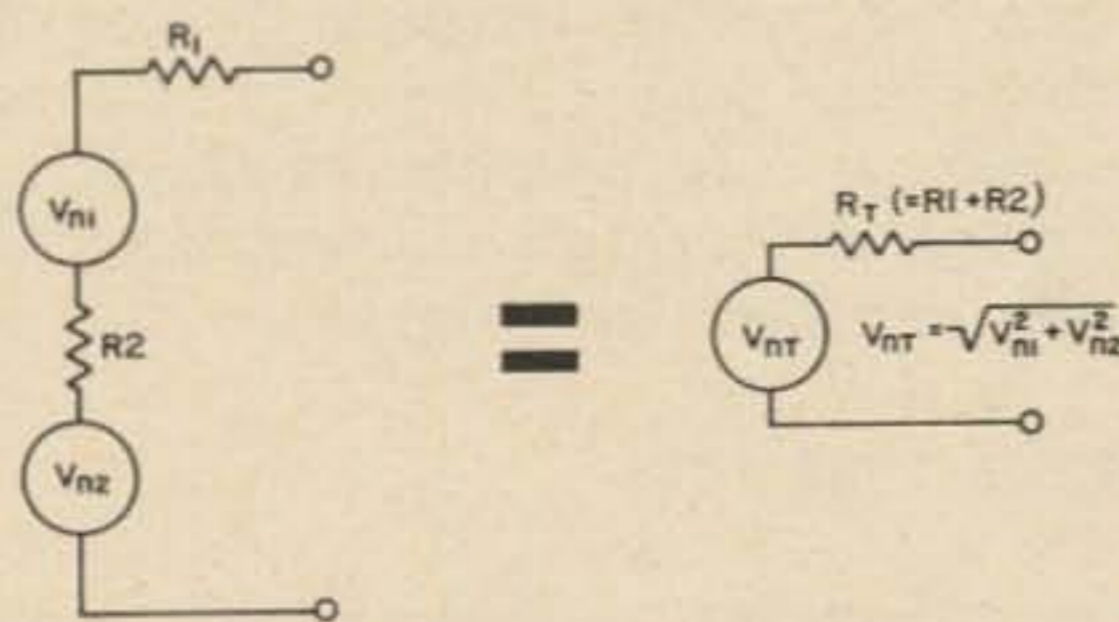

Fig. 3. Combining two resistors into their total equivalent noise circuit.
This equation is illustrated in Fig. 3. Note that we will get the same v_{nT} whether we first combine the R_1 and R_2 and find v_{nT} directly from Equation (2), as in the last paragraph, or if we go to the trouble of using Equation (3). We are merely taking either of two routes to get the same result. However, both methods should be understood. Also, Equation (3) is not limited to the addition of just two incoherent sources. It can be extended to include as many voltages as must be combined. Thus for 5 incoherent sources: